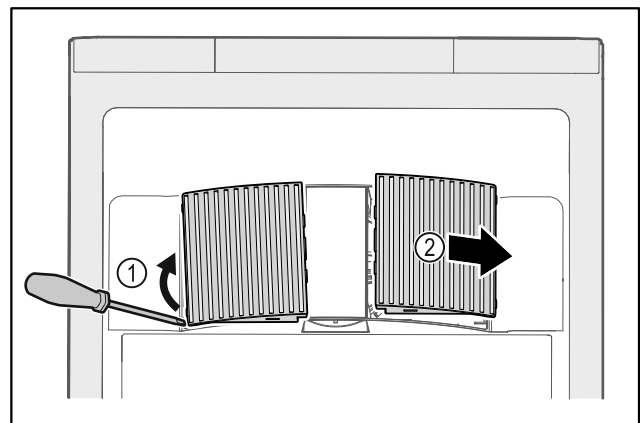

Fig. 126
- ▶ Carefully lever out fan covers from the side Fig. 126 (1) and remove towards the front Fig. 126 (2).